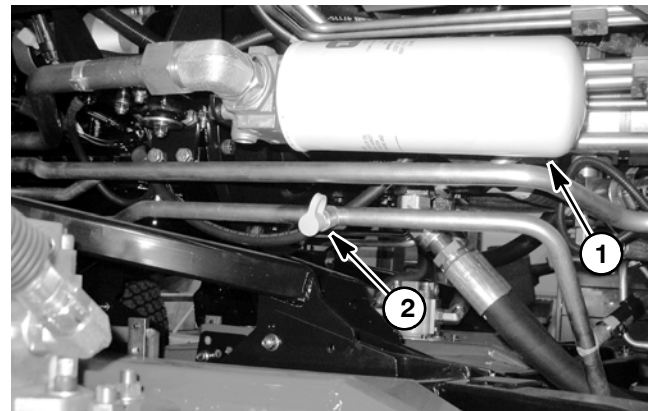

Figure 39
A. For testing the forward traction circuit, a test fitting is located on a hydraulic tube on the right side of the machine below the hydraulic oil filter (Fig. 39).